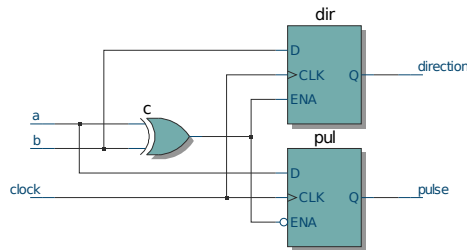

Figure 14: RTL view of synchronous design
*Direction* and exactly with the timing needed for edge triggered devices! For completeness sake, let's also look at the quite boring RTL view in figure 14. Just one XOR gate and two D-type flip-flops with clock enable input. Let's